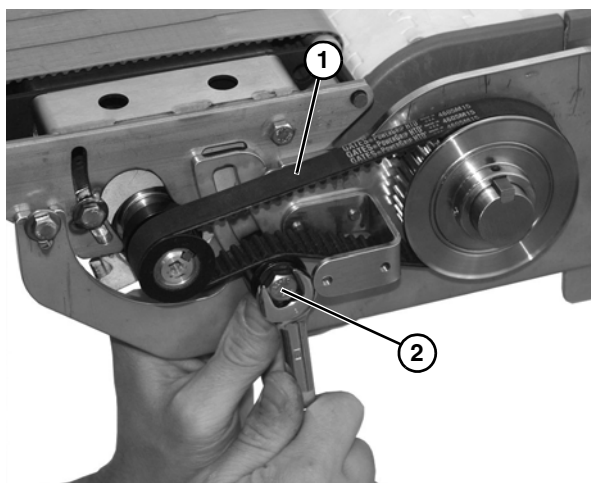

Figure 20
18. Tension timing belt to obtain 1/8" (3 mm) deflection for 6 lb (3 Kg) of force at timing belt mid-point (**Figure 20, item 1**). Tighten tensioner screw (**Figure 20, item 2**) to 110 in-lb (12 Nm).